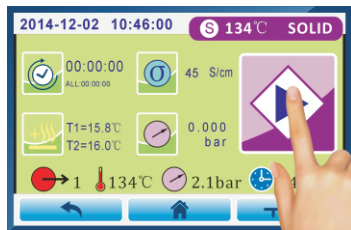
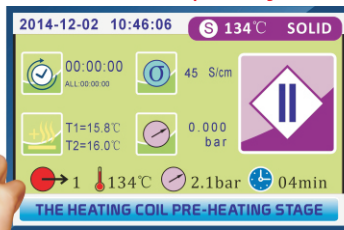
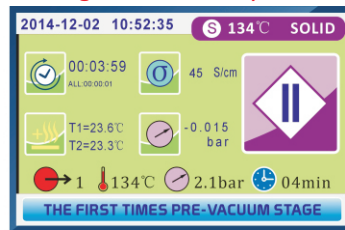

Fig.5.3-19
Fig.5.3-20
Fig.5.3-21
Click “start” button of Fig.5.3-19 interface, the sterilization program starts running, shows Fig.5.3-20 or Fig.5.3-21 interface. When temperature of heating coil(T3) rises and less than 100°C, screen will show Fig.5.3-20 interface (the heating coil pre-heating stage). When temperature of heating coil(T3) rises and over than 100°C, screen will show Fig.5.3-21 interface (the first times pre-vacuum stage).
5.3.2.1. THE FIRST TIMES PRE-VACUUM STAGE (Fig.5.3-21)